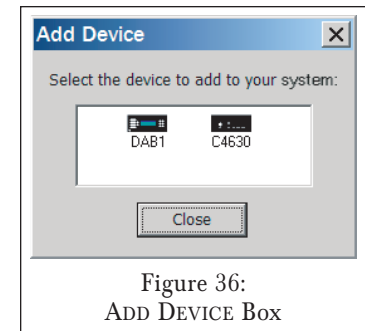
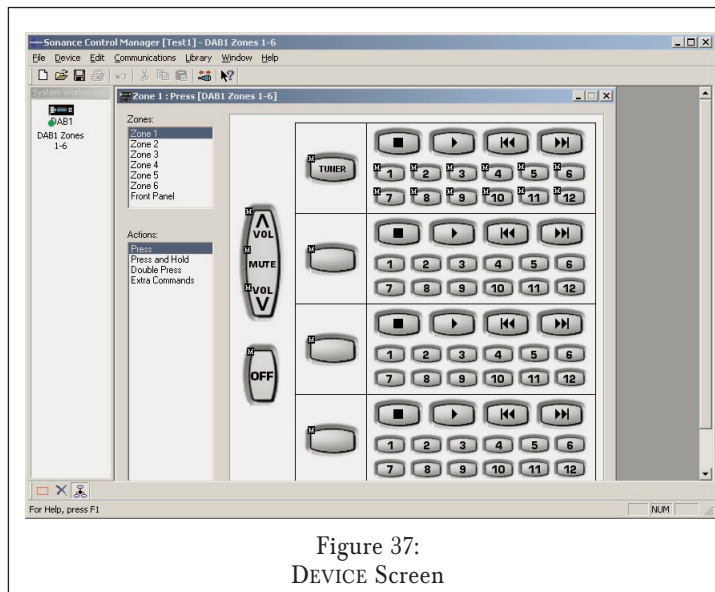

Figure 36:
Figure 37:
3. The ADD DEVICE box (Figure 36) will appear. Select DAB1. The DEVICE screen (Figure 37) will appear.